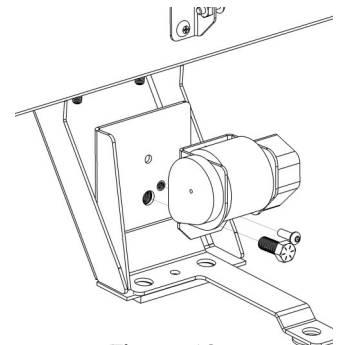

Figure 19a
1. If installing standard OSB belt, skip to step 2. Locate retractable belt assembly [3OSB000006] and 7/16-20 x 1" Gr.8 bolt [3X616] and 1/4-20x0.75" button head screw [3X184]. Using this hardware, secure belt retractor to previously installed retractor bracket [3OSB472023] (Fig 19a). Once retractor is secure, feed buckle and mounting tab end of belt through slot in daughter OSB Bar. Run the lower mounting tab through the seatbelt slot on the inboard portion of the P1300 seat [3TRS472090]. Set the seat into the vehicle forward of its standard position. Skip to step 3.